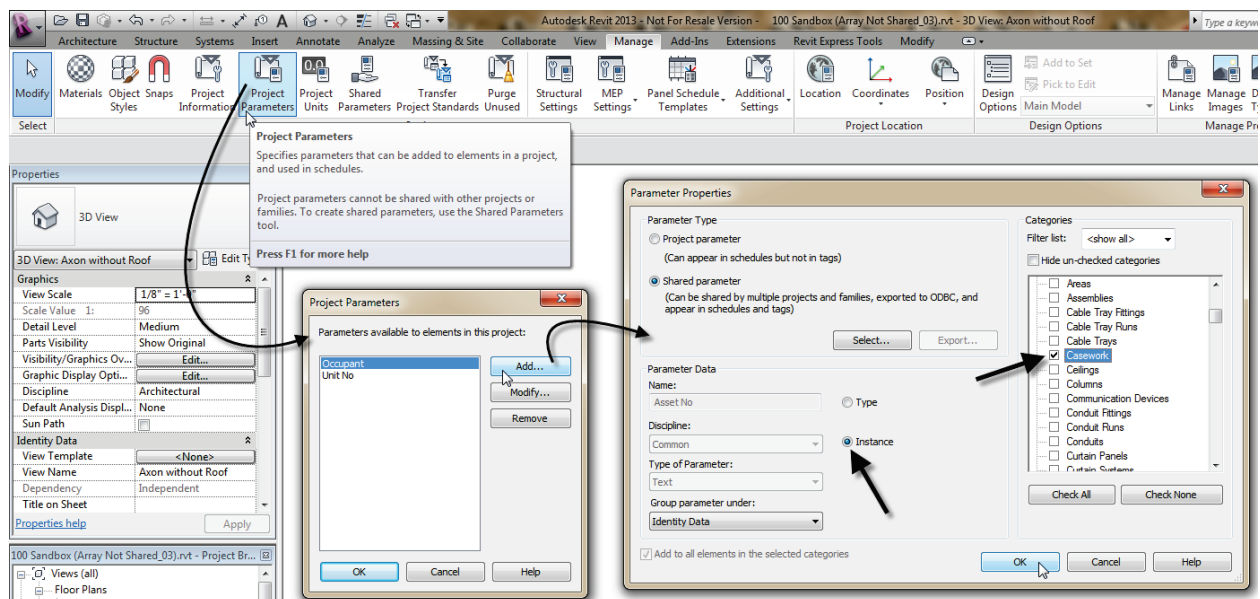

Figure 10—Add a new Project Parameter
4. Choose either a Type or Instance parameter and optionally change the Group parameter under setting. Finally, on the right from the category list, select one or more categories (such as Casework) for this parameter (see Figure 10).